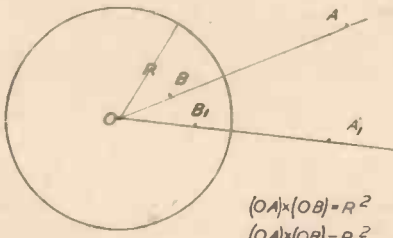

Fig. 1.—The basis of the field theory.
The basis of the field theory is illustrated in Fig. 1. If a point, A, outside a circle is taken at a distance OA from the centre, it is obvious that another point, B, can be found inside the circle, at a distance OB from the centre, such that (OA) x (OB) is equal to the square of the radius of the circle. The point B is then said to be the geometrical inverse of the point A.